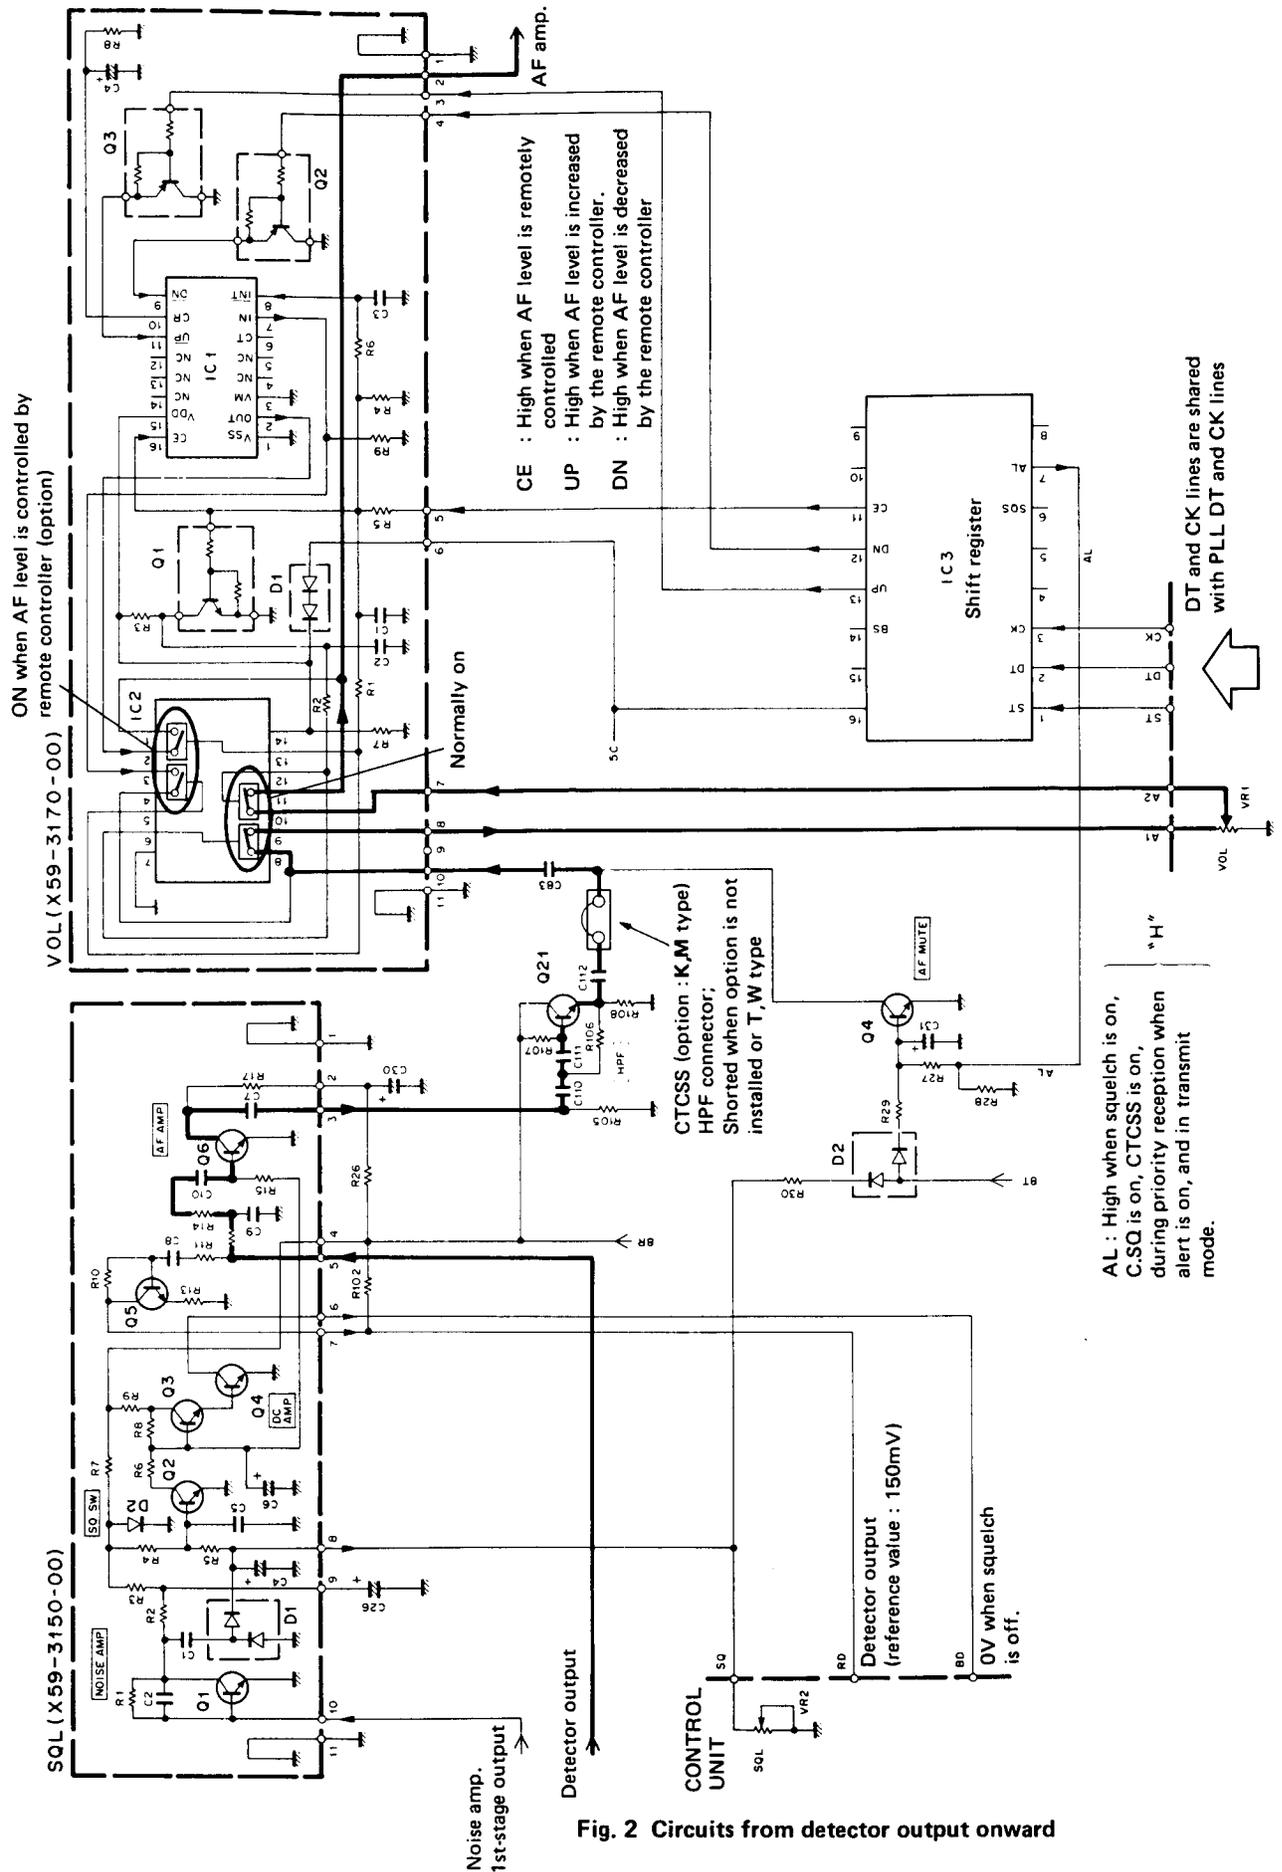

Fig. 2 Circuits from detector output onward
The first IF signal is amplified by Q3 : 2SC2714(Y) and fed to a special narrow-FM IC (TA7761F). Here the signal is mixed with the 10.24MHz (K,M), 10.245MHz (T,W) frequency from the second local oscillator to produce the 455kHz second IF signal. This signal is sharpened by passing it through a six-element ceramic filter (CFW455F). The signal is then amplified by a five-stage limiting amplifier contained in IC1. This is followed by quadrature detection which is also performed by IC1. Undesirable high-frequency components are removed from the detected signal by an active low-pass filter. The signal then passes through the audio volume control, then is amplified by the audio power amplifier (IC4), and applied to the speaker. The circuit configuration from detection onward is shown in Fig. 2.